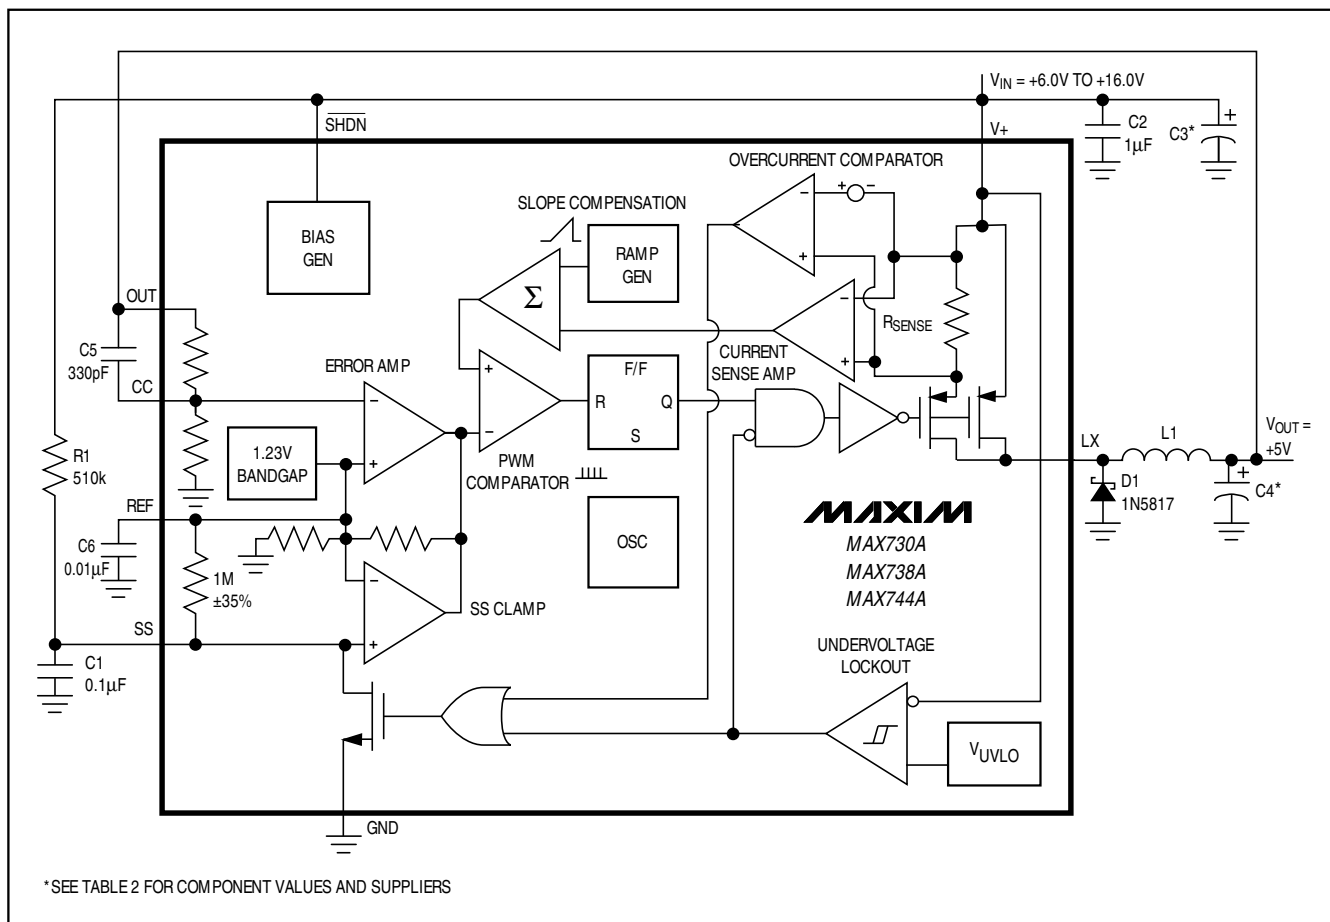

Figure 1. Detailed Block Diagram with External Components
The controller consists of two feedback loops: an inner (current) loop that monitors the switch current via the current-sense resistor and amplifier, and an outer (voltage) loop that monitors the output voltage through the error amplifier (Figure 1). The inner loop performs cycle-by-cycle current limiting, truncating the power transistor on-time when the switch current reaches a predetermined threshold. This threshold is determined by the outer loop. For example, a sagging output voltage produces an error signal that raises the threshold, allowing the circuit to store and transfer more energy during each cycle.
Figures 1 and 2 show a capacitor and a resistor connected to the soft-start (SS) pin to ensure an orderly power-up. Typical values are 0.1 μ F and 510k Ω . SS controls both the SS timing and the maximum output current that can be delivered while maintaining regulation.